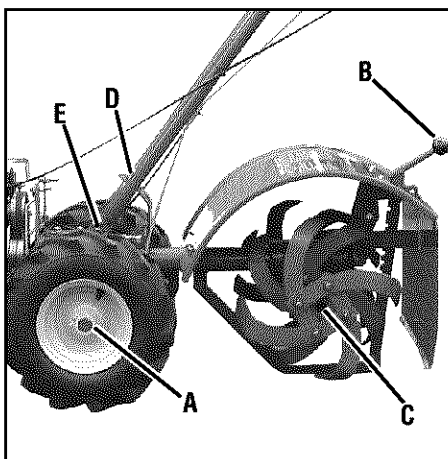

Figure 5-1
Proper lubrication of the tiller is an essential part of your maintenance program. After every 10 operating hours, oil or grease the lubrication points shown in Figure 5-1, as described below.
- Remove wheels and clean wheel shaft (A, Figure 5-1). Apply a thin coating of grease to shaft before reinstalling wheels.
- Grease back, front and sides of Depth Regulator Lever (B, Figure 5-1).
- Remove tines and clean tine shafts (C, Figure 5-1). Inspect tines for rust, rough spots or burrs (especially around holes). File or sand smooth and coat ends of shaft with grease.
- Oil threads on handlebar height adjustment flange screw (D, Figure 5-1).
- Oil threads on handlebar attaching screws (E, Figure 5-1).